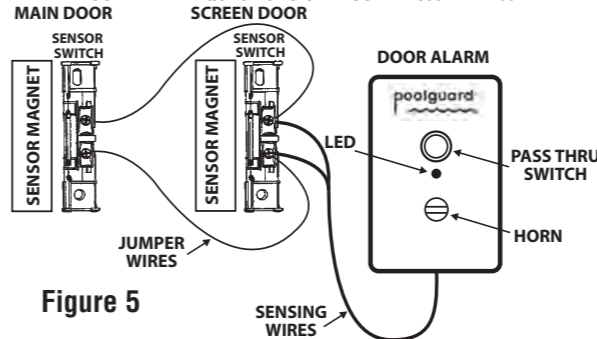

Figure 5
- If you purchased the **OPTIONAL** Screen Door Kit see section 6. (Figure 5)